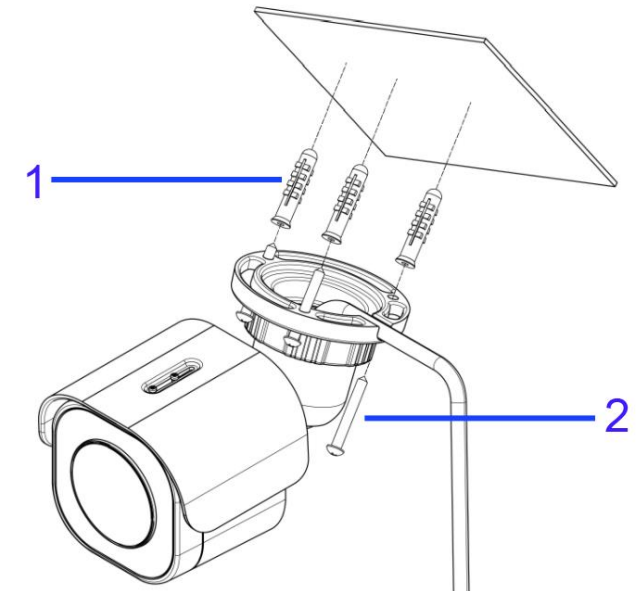

Figure 3
- Insert the three plastic anchors (1) (Figure 3) into the three holes.
- Insert the three tapping screws (2) (Figure 3) into the three holes on the camera body and using the screw driver securely attach the camera to the wall / ceiling.